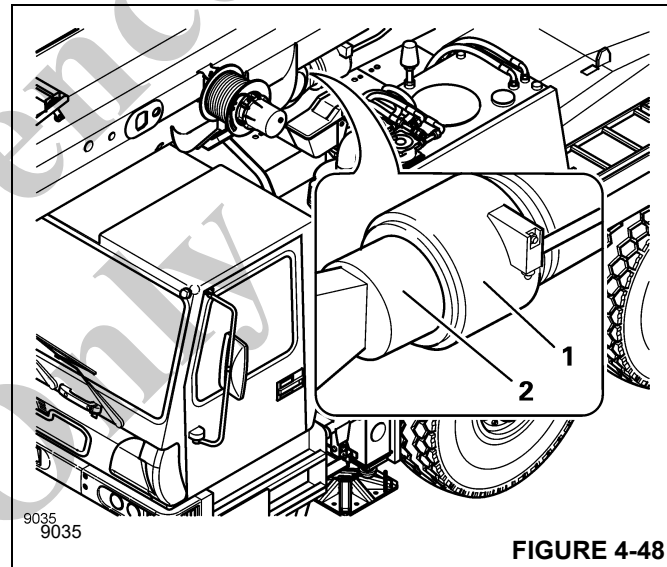

FIGURE 4-48
- Clean the open end (2, Figure 4-48) of the piston rod of old grease, dirt particles and rust.
- Lubricate the open end (2) of the piston rod on the lifting cylinder head (1) so that it is evenly covered with grease.